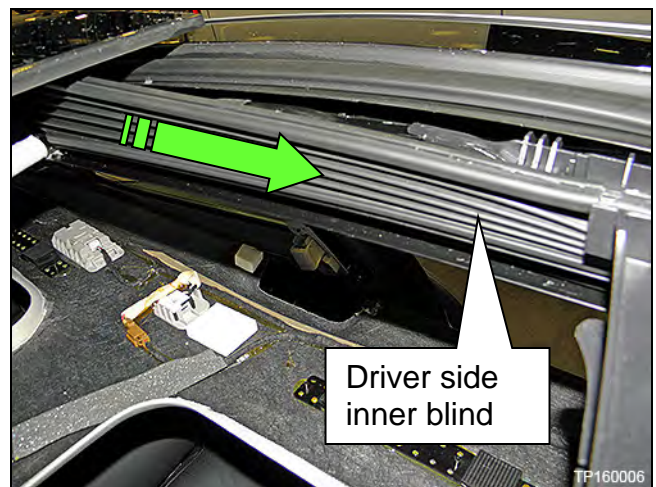

Figure 5
- d. Slide each inner blind toward the front of the vehicle and off of the moonroof guides (Figure 5).
NOTE: Figure 5 is shown from inside the vehicle.